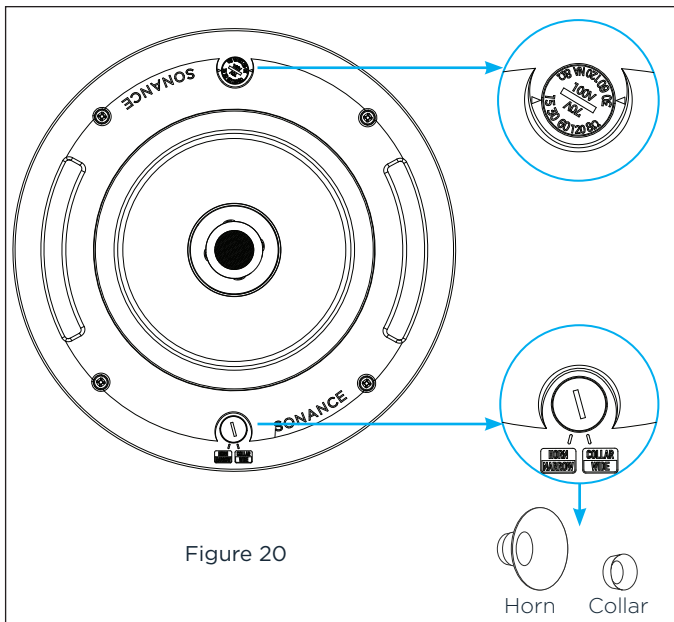

Figure 20
16. Install the appropriate dispersion assembly. Sonance Professional Series High Output loudspeakers feature a magnetic interchangeable collar/horn assembly that can be swapped out to achieve the desired coverage. For wide dispersion applications, leave the collar assembly in place (comes installed as default). For narrow dispersion applications, remove the collar and install the horn. The selector located on the baffle must be assigned to the appropriate position to match the installed assembly (see Figure 20).